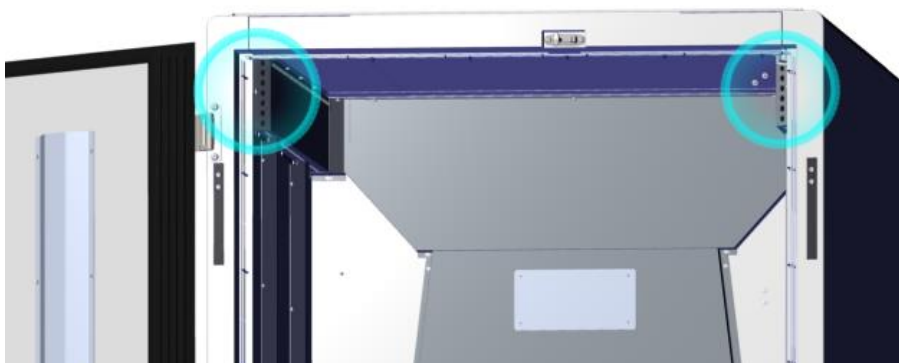

Figure 13 – Location of the air ducts inside the container.
- Check for airflow coming out of the air ducts located on the upper left and right sides, inside the container (Figure 13).